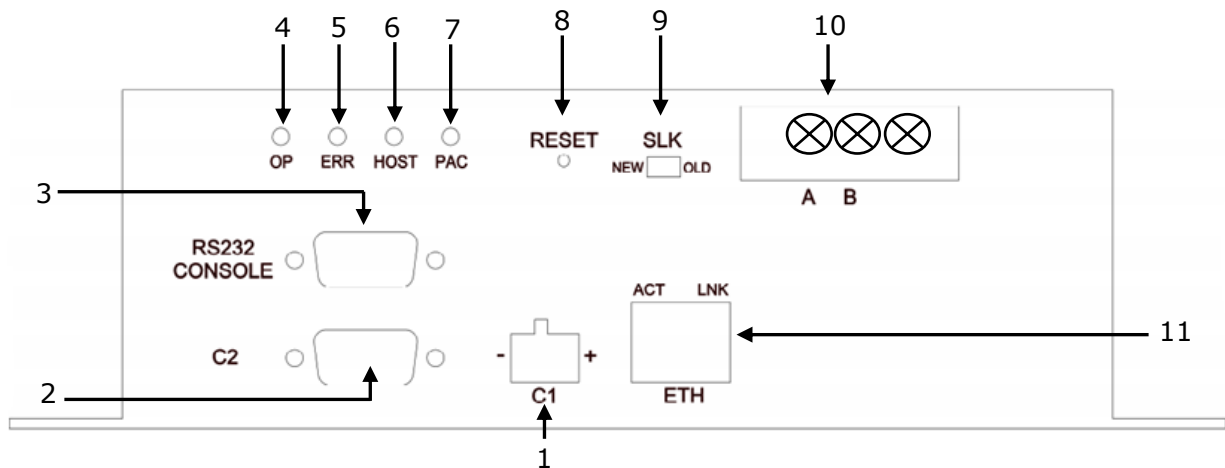

Figure 3.1 Intesis™ device front view
Connect the communication cable coming from the Modbus RTU network to Intesis™ device (see **Figure 3.1**). There are 2 existing modes available:
- EIA485 connection: Use the C1 connector (see **Figure 3.1**) if the Modbus interface is a 2-wire EIA485 connector. Connect the + and – to the respective port in the master device and in the Intesis™ device (polarity matters).
- EIA232 connection: Use the C2 connector (see **Figure 3.1**) if the Modbus interface is point-to-point to one single master.
Connect the communication cable coming from the hub, switch or device of the Modbus Ethernet network to the ETH connector from the Intesis™ device (see **Figure 3.1**). The cable to be used may vary depending on where the Intesis™ is being connected:
Connect the Intesis™ device to the PC serial port using the serial cable provided. One end should be connected to the Console EIA232 port of the Intesis™ device (see **Figure 3.1**) and the other end to the PC serial port.